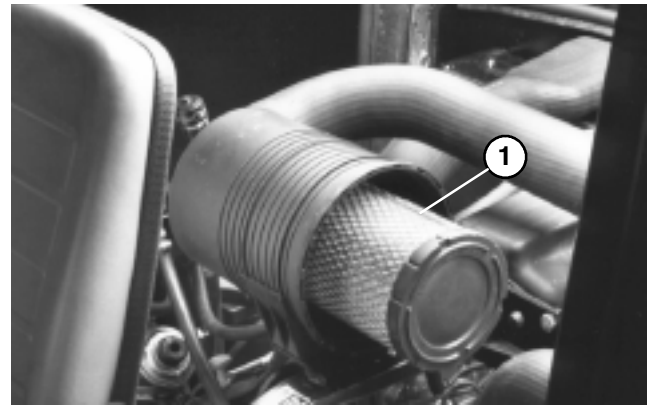

Figure 29
2. Gently slide primary filter (Fig. 29) out of air cleaner body to reduce the amount of dust dislodged. Avoid knocking filter against air cleaner body. **Do not remove safety filter.**